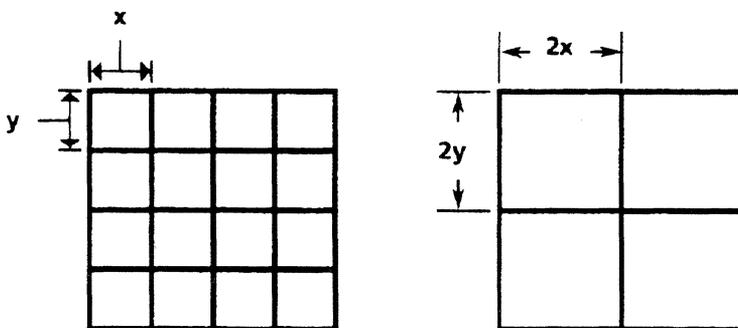

Figure 2-7 Resolution and pixel size
(M) Graphic windows may be printed with 1, 2, or 4X magnification. With 1X (one times) magnification, each bit in the graphic file represents one printed or unprinted dot. With 2X (two times) magnification, each bit in the graphic file represents **two dots in both X and Y directions**. Thus, the number of bits required to cover a given area is reduced by a factor of 4. Similar calculations may be performed for 4X magnification, using a factor of 16. The resulting image is coarser, but requires one-fourth the storage area in memory. This relationship is shown in Figure 2-7 and Table 2-8.